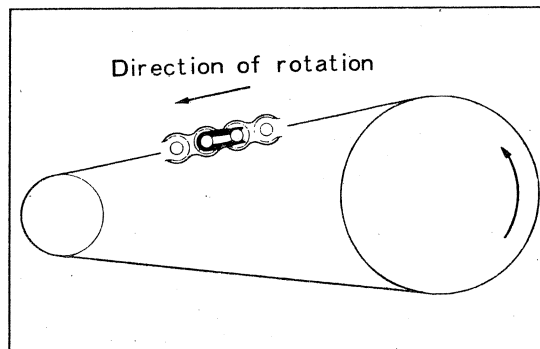

Fig. 31 Direction of rotation
- 4) When connecting drive chain, make sure that the chain joint clip is properly installed. (Fig. 31)